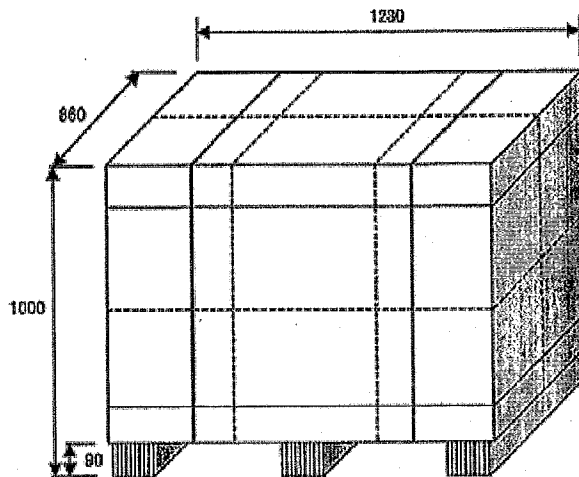

Fig.11-1: Palette packing
- c) Palette size : 1230(W) x 860(D) x 1000 (H) mm
- d) Packing form: Fig.11-1